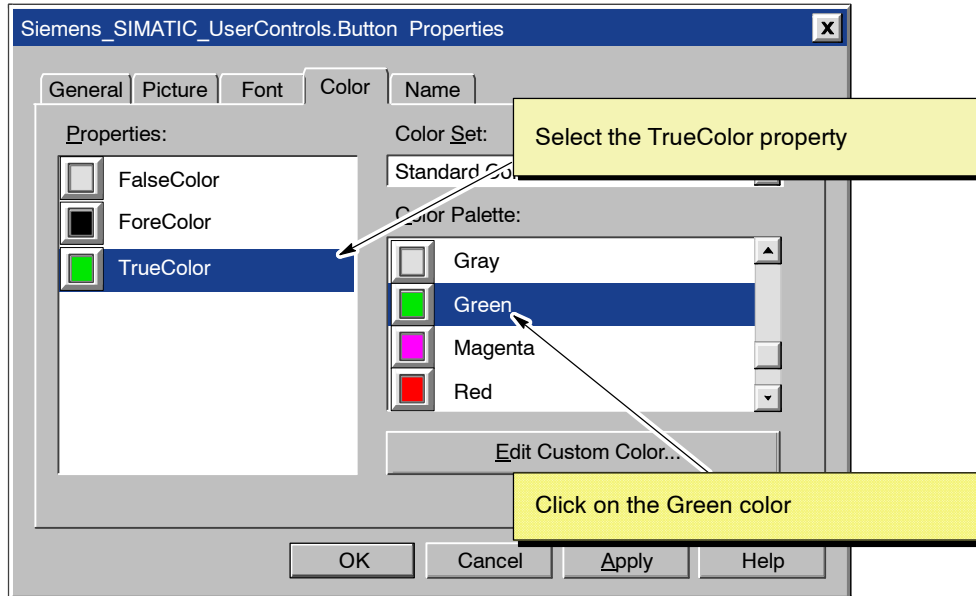

Figure 3-23 Configuring the True Color for Button2 (Button control 2)
9. Select (click on) TrueColor in the Properties box and click on the color Green in the "Color Palette" box. See Figure 3-23.